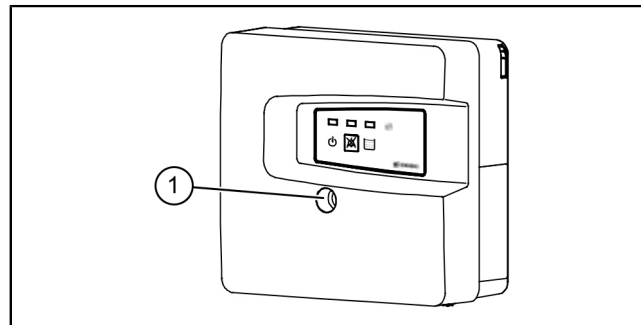

Fig. 4: Open the housing
- ▶ Open the housing cover **4** (see "Fig. 4: Open the housing", page 40).